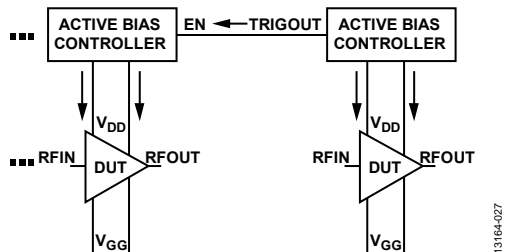
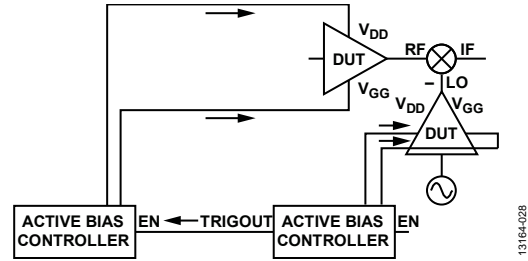

Figure 22. Daisy-Chain Configuration with Two Amplifiers in Cascade Configuration
Figure 23. Daisy-Chain Configuration Where DUT Amplifiers Are on Different Signal Paths
When multiple active bias controllers bias multiple DUTs, they can be used in a daisy-chain configuration. The TRIGOUT output of the active bias controller generates when the VDRAIN, VG2, and VGATE outputs settle. Using the TRIGOUT signal to enable another bias controller with the enable pin (EN) improves the system safety level. A daisy-chain configuration has many applications, Figure 22 and Figure 23 show two applications. The number of DUT stages and bias controllers can be increased.